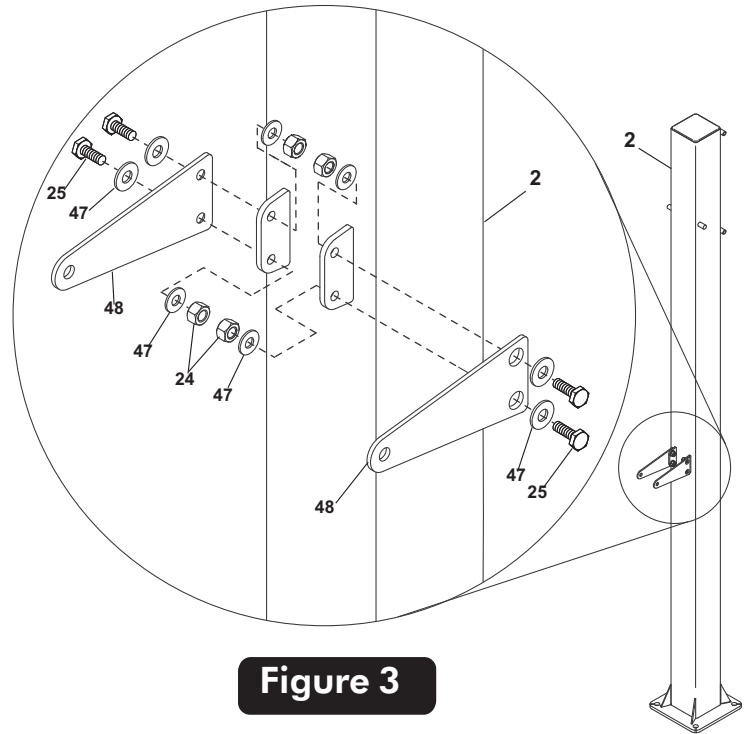

Figure 3
1. Attach Post Brackets (#48) to outside of brackets on back of Post Assembly (#2). Secure with two Hex Head Bolts (#25), four Flat Head Washers (#47) and two Locknuts (#24) in each Bracket (#48). See Figure 3.